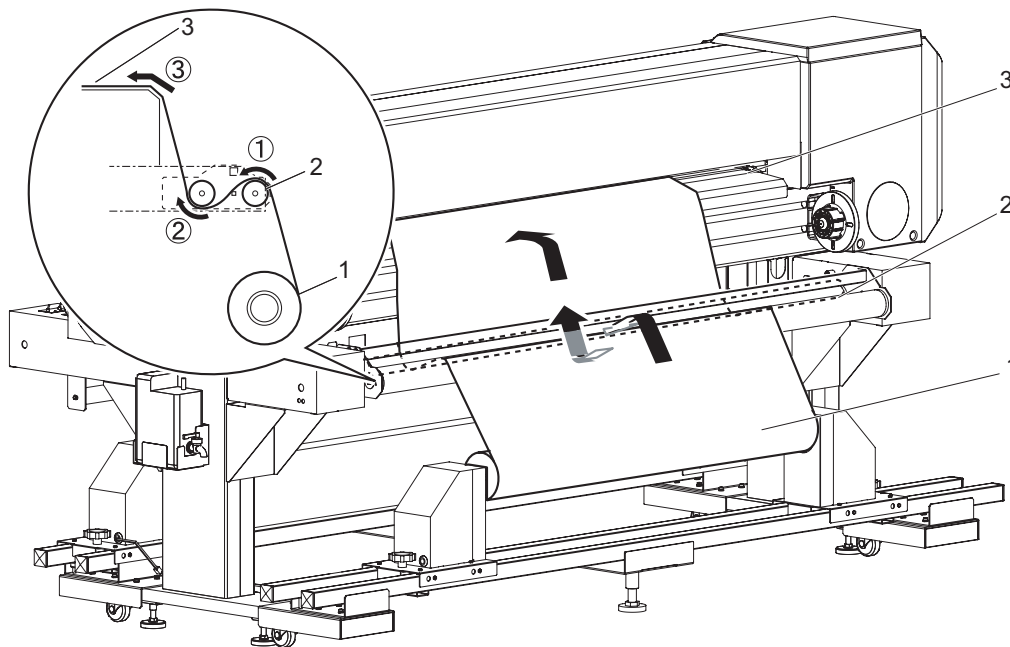
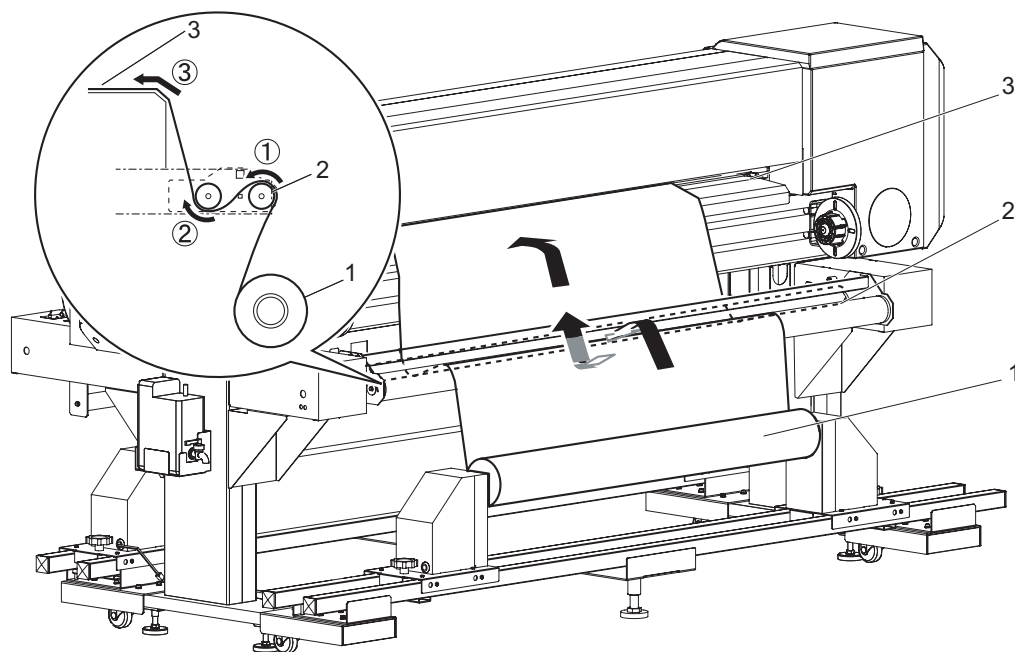

Figure 22. Insert Paper into Tension Roller
Figure 23. Install Roll Media
13. Insert the roll media into the tension roller, and then into the Rear Printer Platen. Media can be inserted either with the print surface on the outside (Figure 22) or with the print surface on the inside (Figure 23).